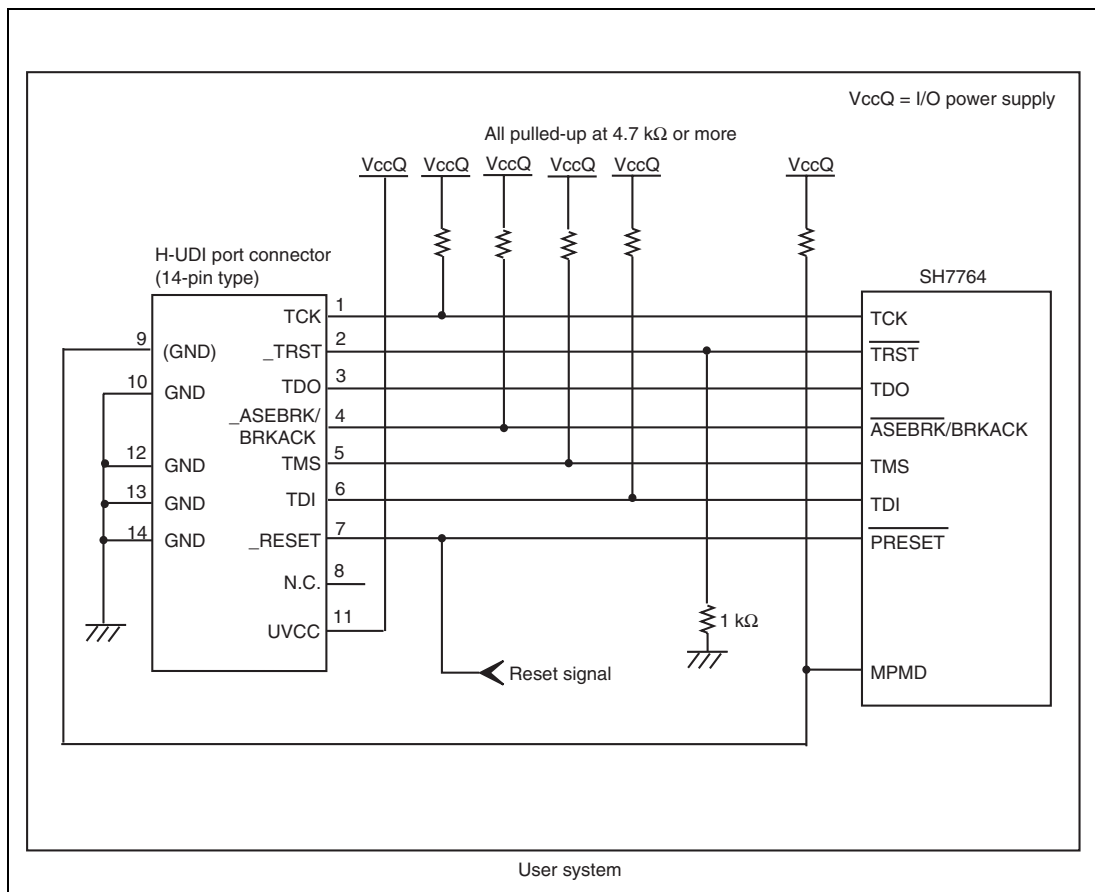

Figure 1.6 Recommended Circuit for Connection between the H-UDI Port Connector and MPU when the Emulator is in Use (14-Pin Type)
Figure 1.6 shows a recommended circuit for connection between the H-UDI and AUD port connectors (14 pins) and the MPU when the emulator is in use.
(1) When the emulator is used: $MPMD = 0$
(2) When the emulator is not used: $MPMD = 1$
Figure 1.6 shows an example of circuits that allow the MPMD pin to be GND (0) whenever the emulator is connected by using the user system interface cable.
6. The resistance values shown in figure 1.6 are preliminary.
When the circuit is connected as shown in figure 1.6, the switches of the emulator are set as SW2 = 1 and SW3 = 1. For details, refer to section 3.8, Setting the DIP Switches, in the SuperH™ Family E10A-USB Emulator User's Manual.